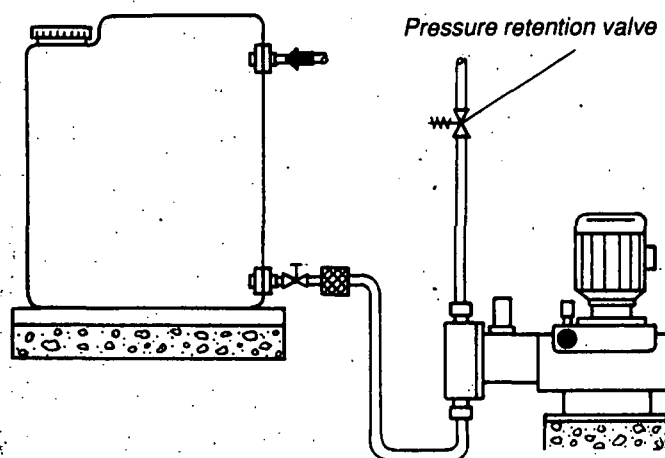

Figure 1
Pumps for gas-evolving media and media with a high viscosity should be flooded suction (figure 1).
- Important hint: For the correct functioning of the dosing pump, a positive pressure difference of min. 20 m water gauge is necessary. If the sum of backpressure and static head between suction valve and dosing point is less than 20 m water gauge, a pressure retention valve must be installed directly before the dosing point (figure 1).